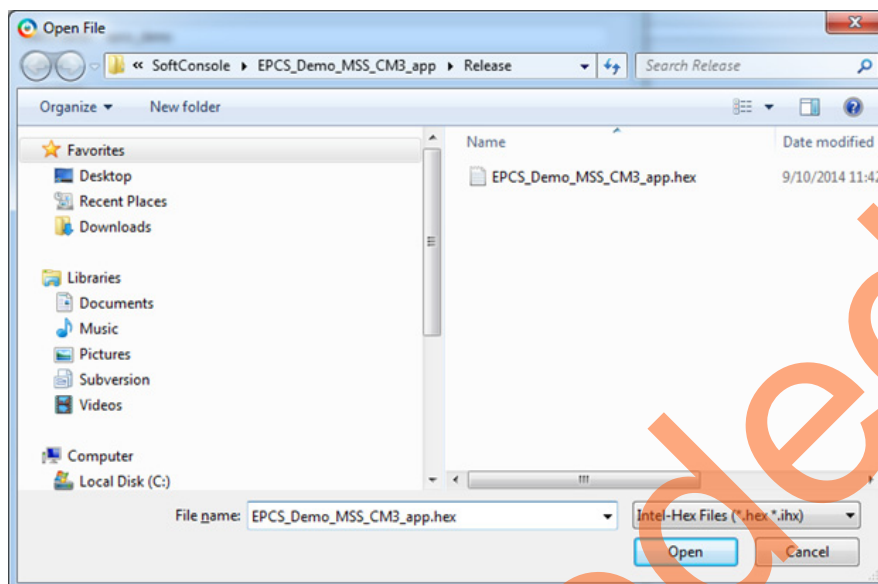

Figure 62 • Selecting .hex File
17. Browse for the .hex file generated. The generated executable image can be found in the **Release** folder under the SoftConsole project workspace, as shown in Figure 62.